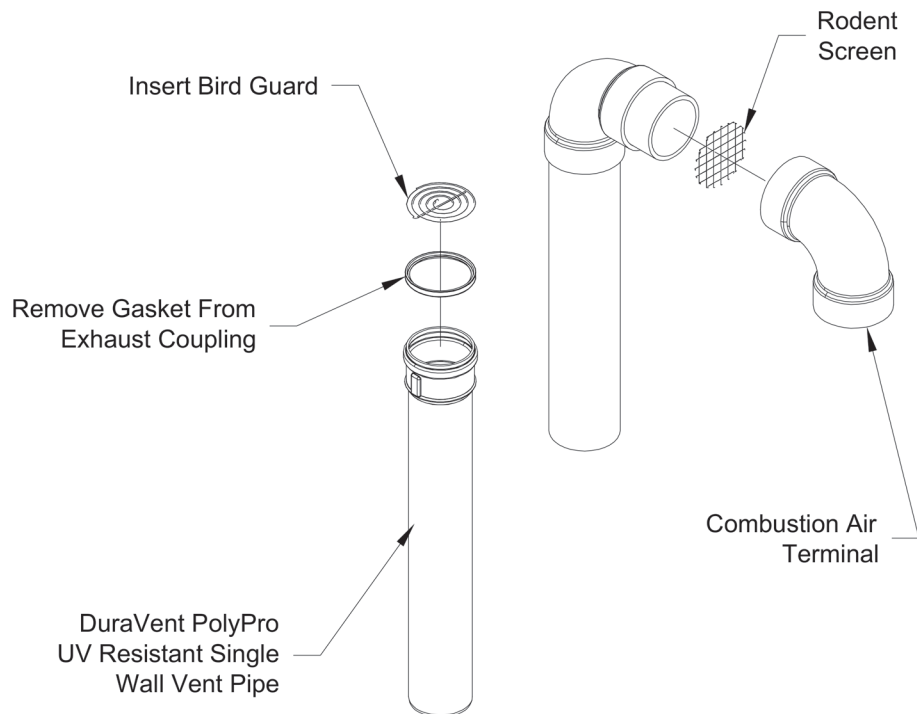

Figure 7.36: Installation of DuraVent PolyPro UV Resistant Single Wall Vertical Terminal
- a. See Figure 7.36 for the proper orientation of twin pipe vertical terminals.
- c. A 180° bend (or two 90° elbows) are installed on the top of the air intake pipe. If two 90° elbows are used, the rodent screen provided can be installed between them (Figure 7.36). If a 180° bend is used, install the rodent screen in the open side of the bend, using a ring made of PVC pipe. If desired, the termination fittings can be attached to the end of the intake pipes with field supplied stainless steel screws so that they can be later removed for cleaning and inspection. If this is done, drill a clearance hole in these fittings and a tap hole in the end of the intake pipes to accept these screws.